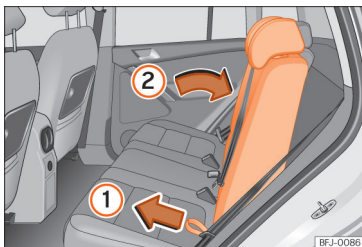

Fig. 106 Rear seat backrest adjustment.
- Press the right or left backrest of the seat with one hand and, at the same time, pull from the corresponding cord with the other »» **Fig. 106** ①.
- Move the backrest with your hand to the desired position; there will be some resistance ②.